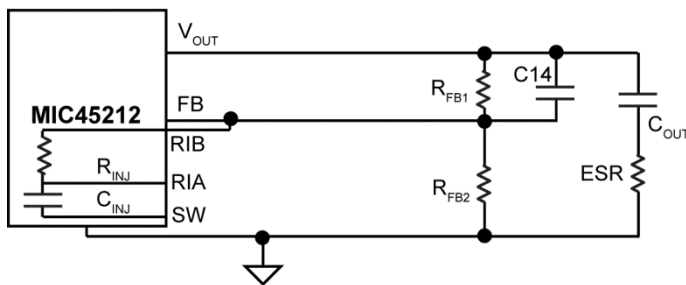

Figure 10. Internal Ripple Injection at FB via RIB Pin
2. Virtually no or inadequate ripple at the FB pin voltage due to the very-low ESR of the output capacitors, such is the case with ceramic output capacitor. In this case, the V_{FB} ripple waveform needs to be generated by injecting suitable signal. MIC45212 has provisions to enable an internal series RC injection network, R_{INJ} and C_{INJ} as shown in Figure 10 by connecting RIB to FB pin. This network injects a square-wave current waveform into FB pin, which by means of integration across the capacitor (C_{14}) generates an appropriate sawtooth FB ripple waveform.